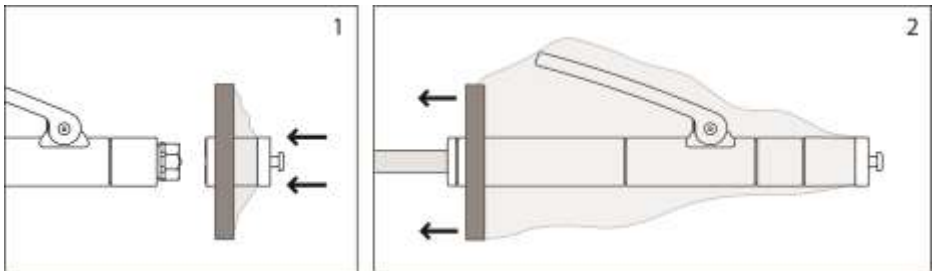

Figure 6
(S) Attach coupling part of the Mofixx sleeve to the actuator by pushing it on along the axis of the actuator. (Push the cylinder shaped housing of the sleeve, not the pin). You will hear a clack sound when attached properly. Roll out sleeve along the arm. (See Figure 6)